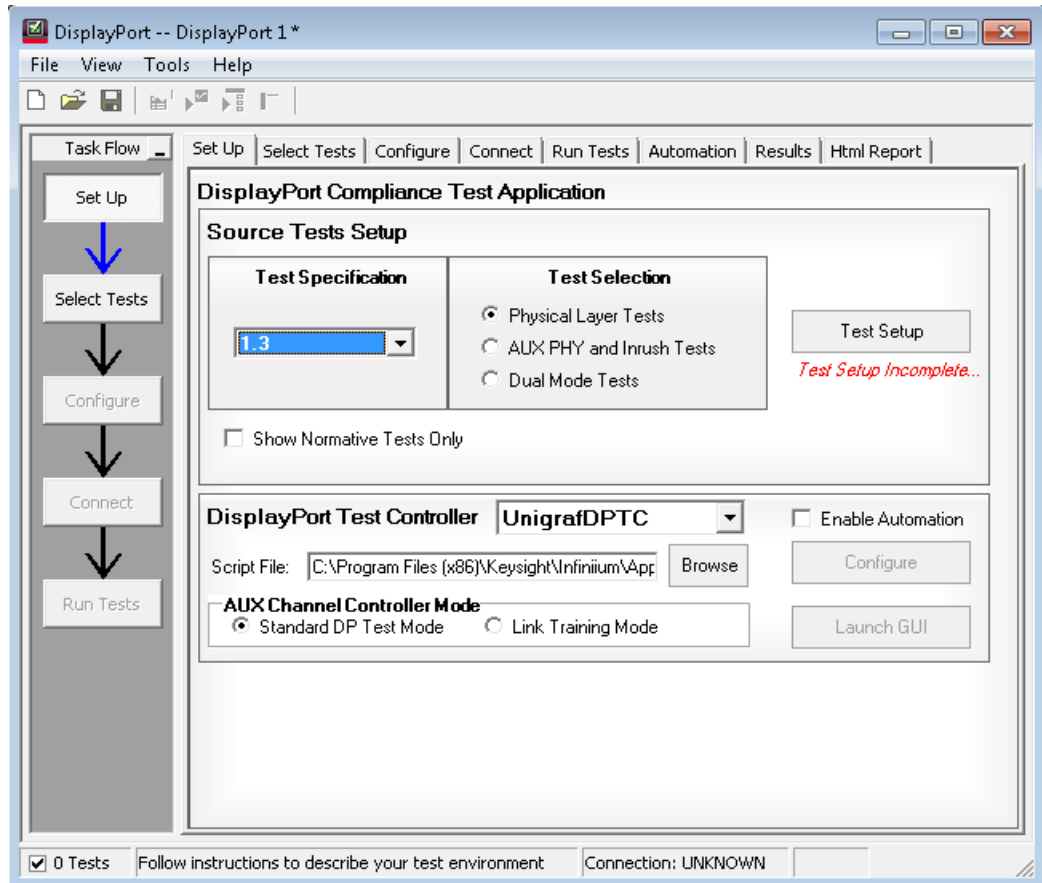

Figure 77 Set Up tab on the DisplayPort Compliance Test App
- 3 On the DisplayPort Compliance Test Application, click the **Set Up** tab (see Figure 77).